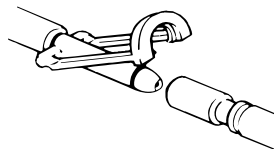

Figure 23 – Clik-Tite open
- b. If you have Clik-Tite hoses, make sure that the connectors and clamps are open (Figure 23).